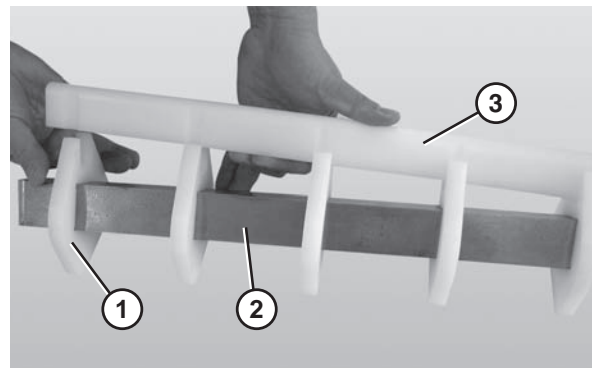

Figure 65
3. Remove the nose bar wear strip (Figure 65, item 3).
4. Slide the nose bar pucks (Figure 65, item 1) off the nose bar shaft (Figure 65, item 2).